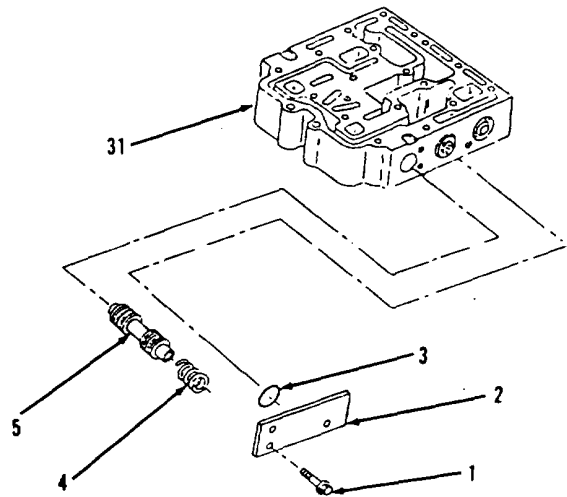
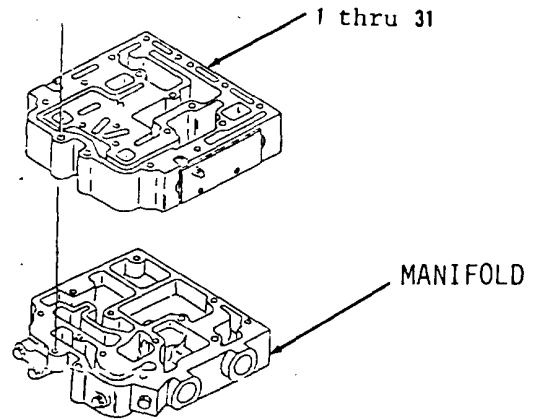

Figure 14-101.
Figure 14-100.
12. Install spool (5) and spring (4, Figure 14-101).
13. Install new preformed packing (3) in cover (2).
14. Install cover (2) and bolt (1) to body (32). Tighten bolt (1) to 19 to 25 ft-lb. torque.
15. Install items 32 thru 1 as an assembly (Figure 14-100) on manifold.